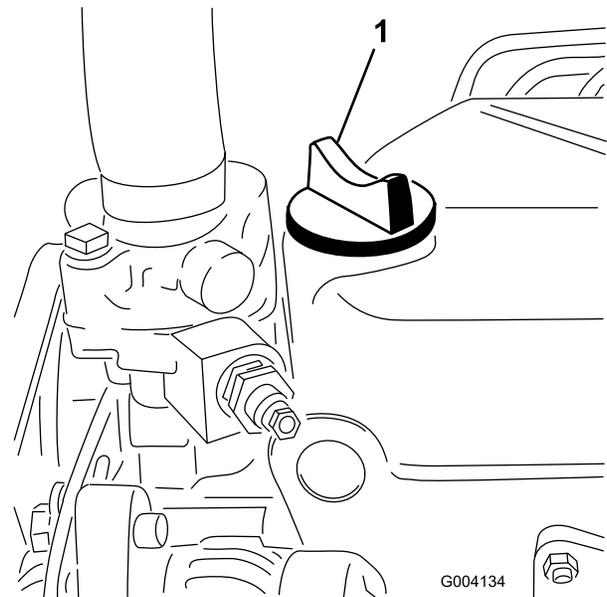

Figure 28
5. If the oil level is below the Full mark, remove the fill cap (Figure 28), and add oil until the level reaches the Full mark on dipstick.